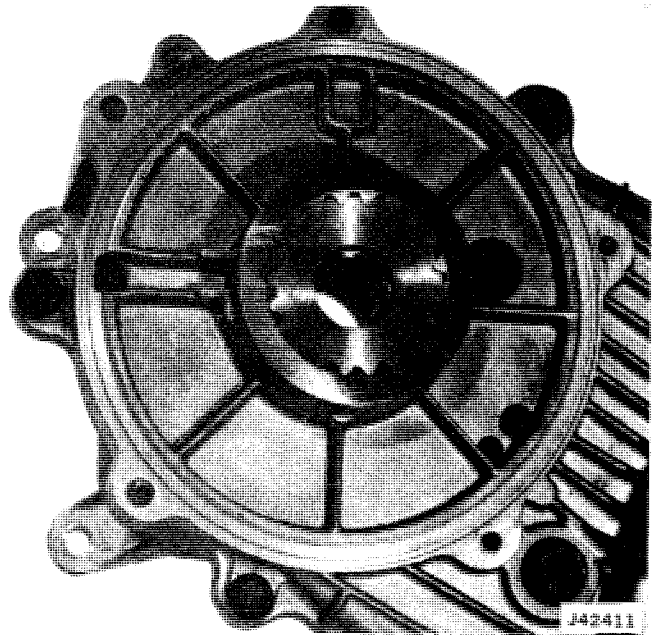

Fig. 2D-61 Drive Hub and Sleeve Installed
(17) Rotate drive sleeve to be sure drive sprocket thrust washer was not displaced during assembly. The sleeve must turn freely without binding.
(18) Install power takeoff cover seal ring and cover.
(19) Install speedometer gear on rear output shaft (fig. 2D-48).
(20) Install rear output shaft seal using Tool J-25160 (fig. 2D-49).
(21) Install rear yoke, washer, and retaining nut. Tighten nut to 120 foot-pounds torque. Use Tool J-8614-01 to hold yoke while nut is tightened.
(22) Install front output shaft seal using Tool J-25160.
(23) Install front yoke, washer, and retaining nut. Tighten nut to 120 foot-pounds torque. Use Tool J-8614-01 to hold yoke while nut is tightened.